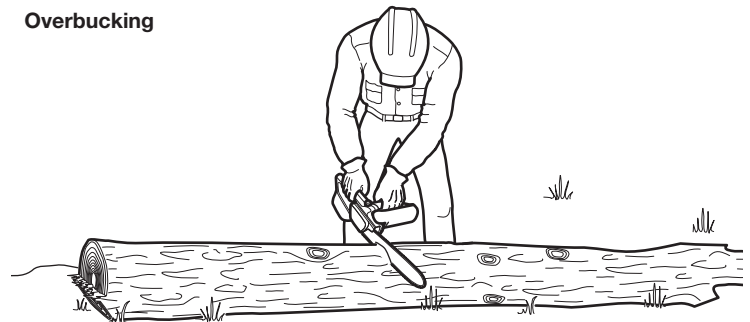

Fig. 16
When logs are supported along the entire length, extra care should be taken to make sure the saw chain does not contact the ground or other support structure (Fig. 16).
1. Begin cutting from above, with the bottom of the saw chain against the top of the log (Fig. 16).